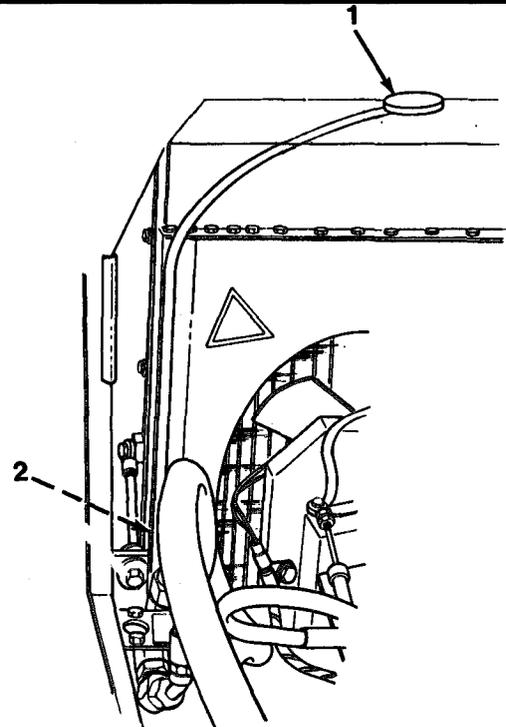

Figure 9-1
13. Make sure drain valve (2) is closed. Fill radiator with recommended antifreeze solution to proper level and install cap (1, Figure 9-1).